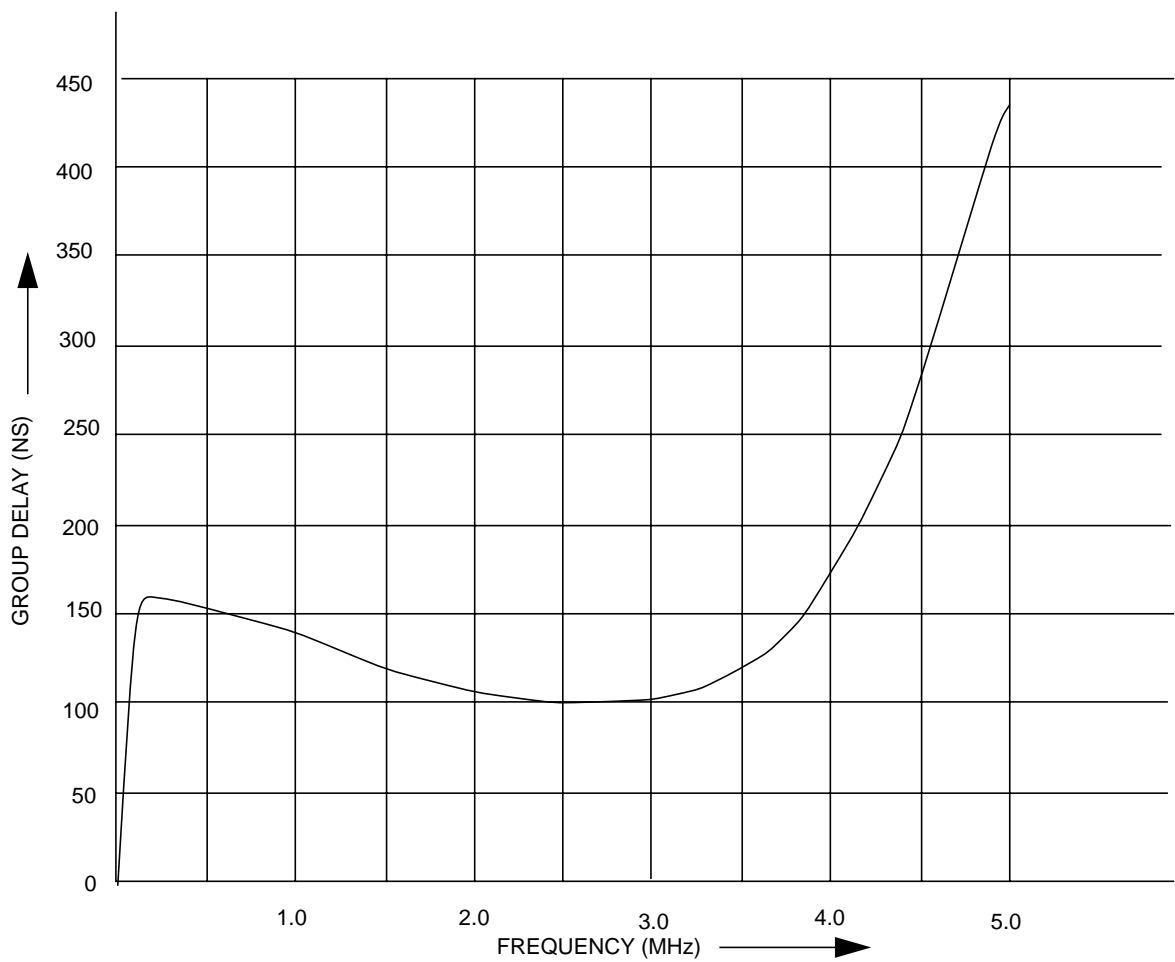

Fig.8 Group delay characteristic
24. The typical group delay characteristic for the BG standard is given in Fig.8.